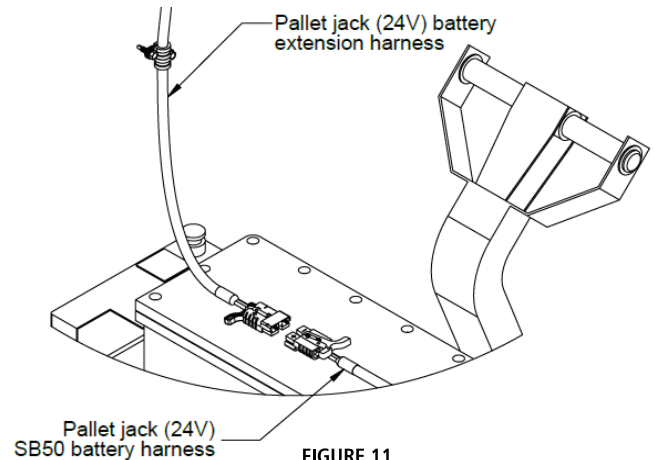

FIGURE 11
- c. Connect the SB50 battery harness to the SB50 extension harness from the DCS unit. (Figure 11)